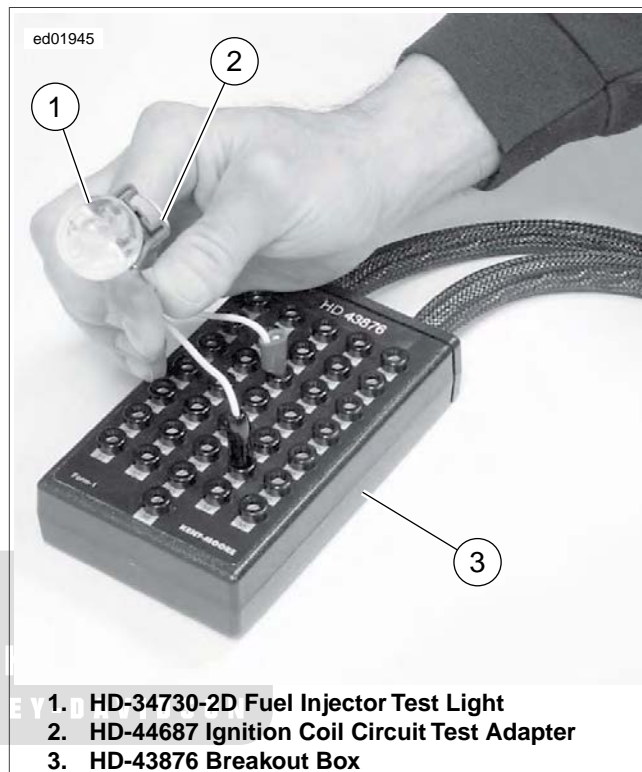

Figure 1-16. Fuel Injector Test Light
3. See Figure 1-16 for typical setup. Connect one side of the fuel injector test light to power and the other to the terminal on the ECM for the circuit you are testing.